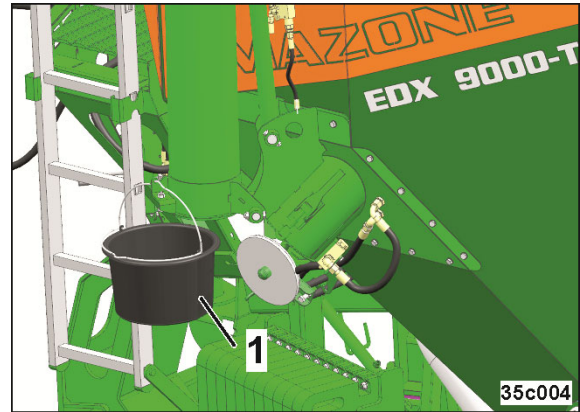

Fig. 250
7. Hook on the collection bucket (Fig. 250/1)